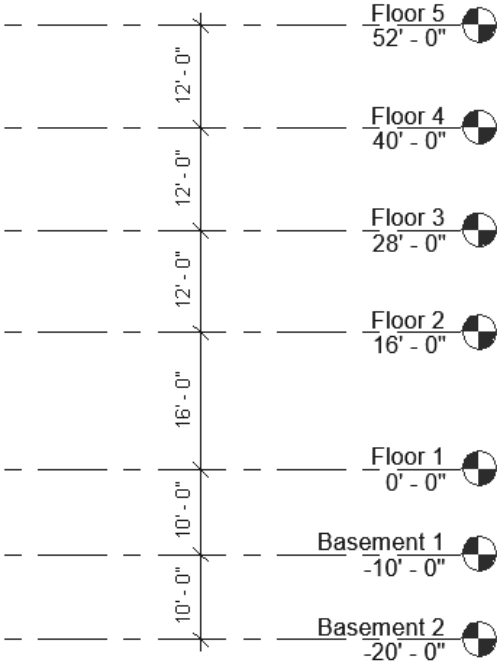

Figure 1-27
- 7. Add three more sequential levels above **Floor 2** with a distance of **12'-0"** between each level, and two levels named **Basement 1** and **Basement 2** below **Floor 1** with a distance of **10'-0"** between them. Make sure to click **Yes** to rename the corresponding views. Figure 1-27 shows the completed levels.